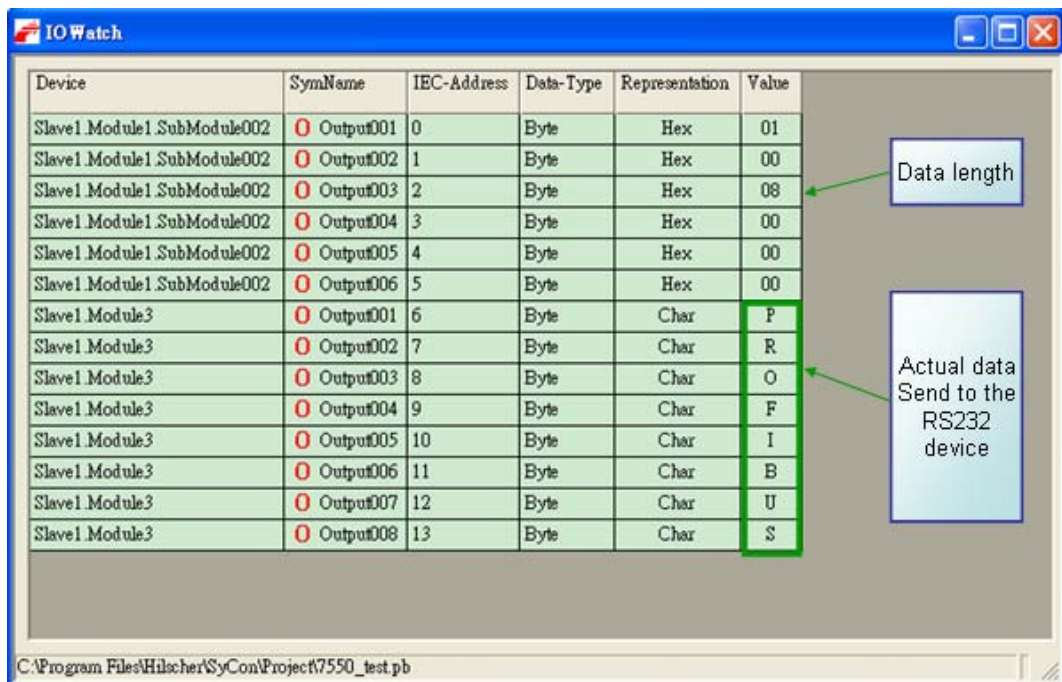

Figure 44: Data output area
- Enter the string “PROFIBUS” in the data output area as shown in *Figure 44*
- Enter 8 for the data length (*Figure 44*)